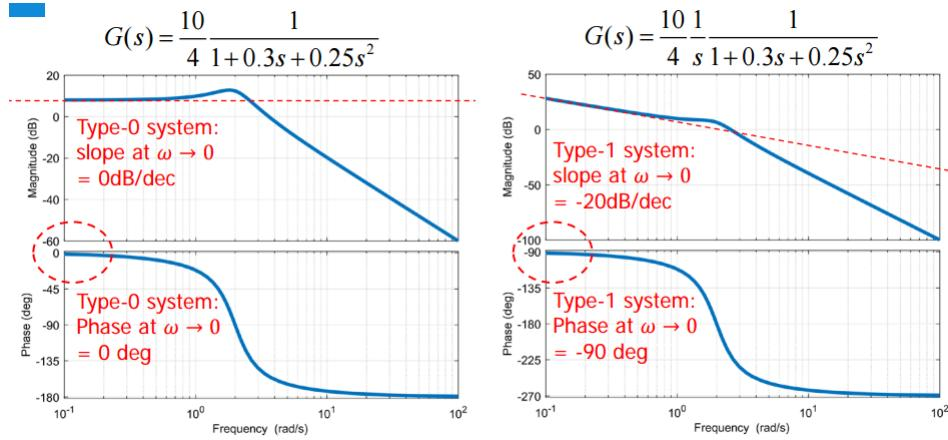

Figure 7.10: Effect of type-0/type-1 systems.
- Secondly, in figure 7.10, we see the difference between type-0, type-1 and type-2 systems: we see that if we have a type-0 system on the left (since there are no poles for $s = 0$), the slope of the magnitude is initially 0 and the phase is 0° as well. However, when we add a term $1/s$ (and thus add a root in the origin, thus it becomes type-1) on the right, then we see that we immediately have a slope of -20 dB/dec. The phase also starts at -90° .